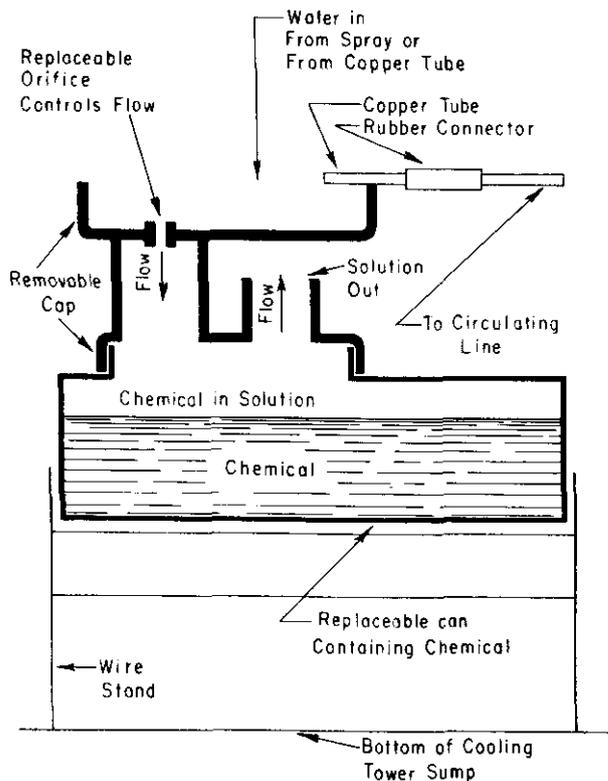

Fig. 4 - Cross Section of a Simple Manufactured Feeder
7.04 Fig. 4 shows one type of feeder which can be purchased commercially. This type unit can be used singly or in groups. It is to be placed in the bottom of the cooling tower or evaporative condenser and arranged so that the top cup is always full of water when the circulating pump is running. The proper rate of flow is obtained by using the proper size of orifice. The chemical is replaced by removing the empty can and placing a new can of chemical in its place.